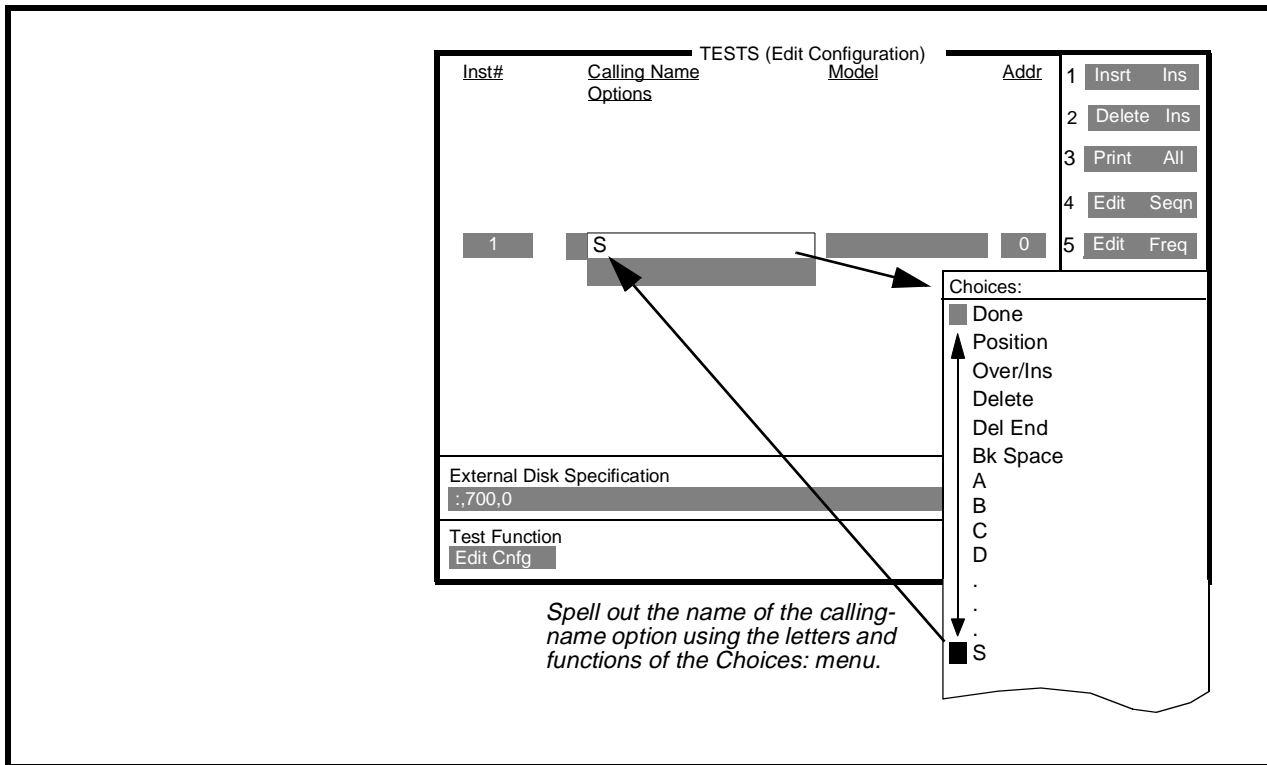

Figure 32
- 6 Position the cursor next to the **Calling Name Options** field and select it. The field is highlighted and the **Choices:** menu appears (see figure 32) with the cursor positioned at **Done**.